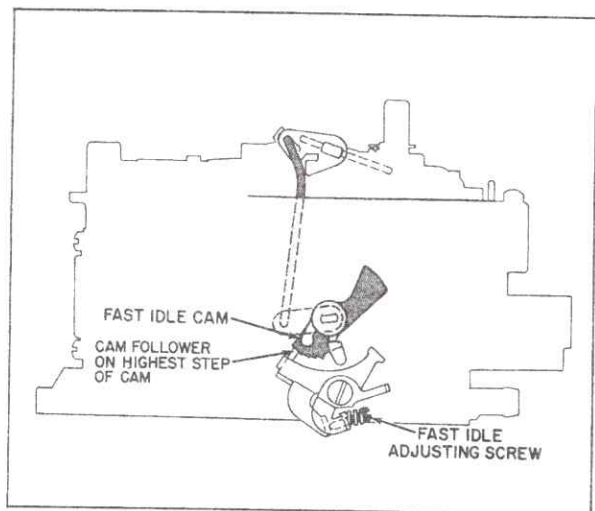

Fig. 6-106 Fast Idle Adjustment (On Car)
## 89. Fast Idle Adjustment (On Car) (Fig. 6-106)
3. Open throttle slightly. Set fast idle cam follower on highest step of cam, Fig. 6-106.
5. Observe idle speed and adjust fast idle screw, Fig. 6-106, to give 1700-1750 rpm with transmission in Neutral. Return engine to normal idle and install air cleaner.